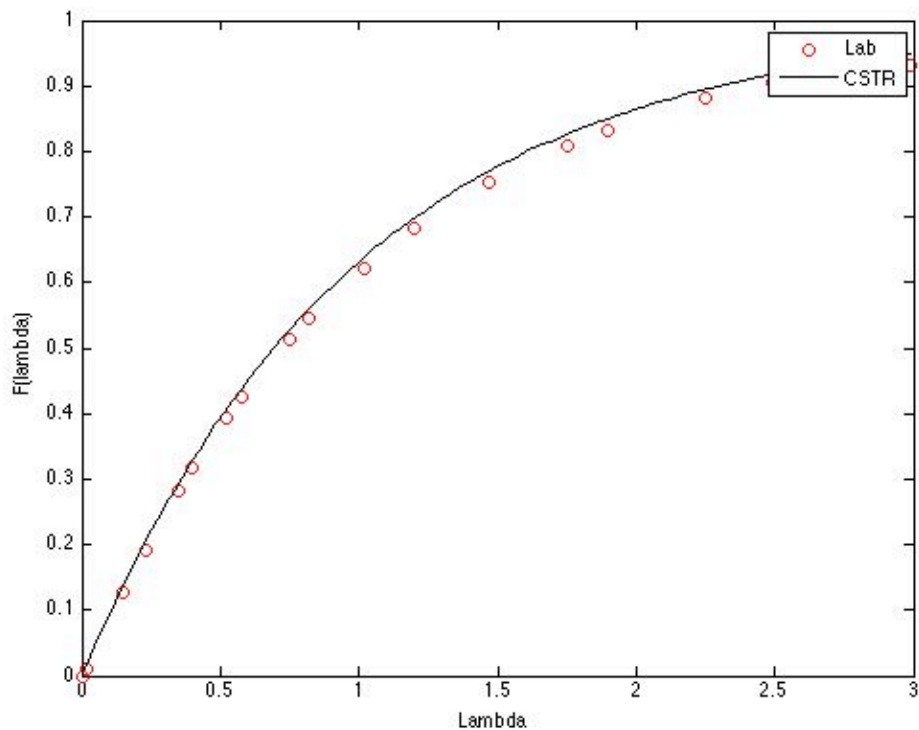

Figure 1. Comparison of the experimental and ideal age functions.
through (4) into equation (1), equation (5) results. Further noting that $V_{\%,0} = 0$ and $t_0 = 0$ leads to equation (6), which can be used to calculate a value of $F(\lambda)$ for λ equal to each of the times at which the response was measured. Since $V_{\%,out}(t)$ takes the form of the data in the table above, and not an analytical function, the integration must be performed numerically, e. g. using the trapezoid rule (See Example 11.4). The resulting data can be plotted, as shown in Figure 1.
If the tested reactor obeys the assumptions for ideal CSTR, the age function should be given by equation (7). The average residence time, \bar{t} , that appears in equation (7) is found using equation (8). Substitution of equation (8) into equation (7) leads to equation (9) for the age function of an ideal CSTR that corresponds to the tested reactor. That age function is also plotted in Figure 1.